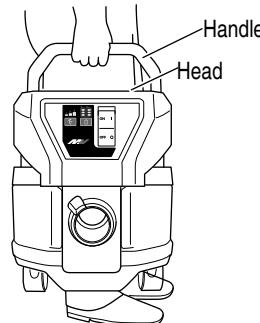

Fig. 22
7. Transportation and storage**How to use the handle (Fig. 22)**